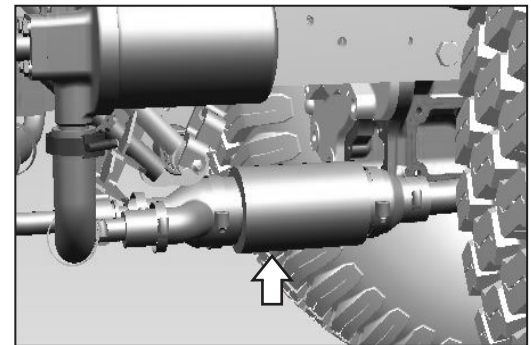

Fig. 5.17a
5.17 Cleaning of Suction Strainer (Fig. 5.17a)